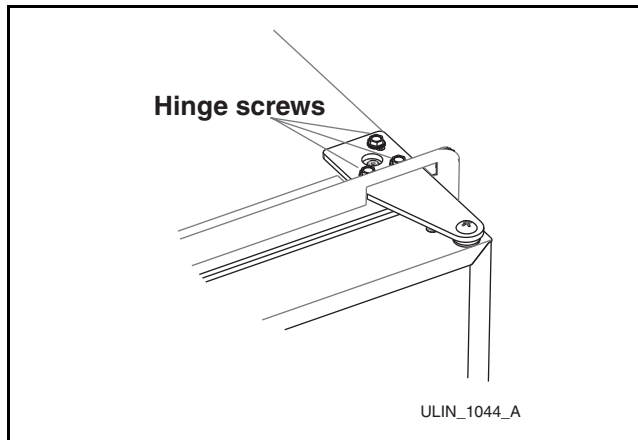

Figure 14
1. Loosen (do not remove) top (**Figure 14**) and bottom hinge screws.
2. Remove top hinge from cabinet (three screws) (**Figure 14**). Hold door to keep it from falling.